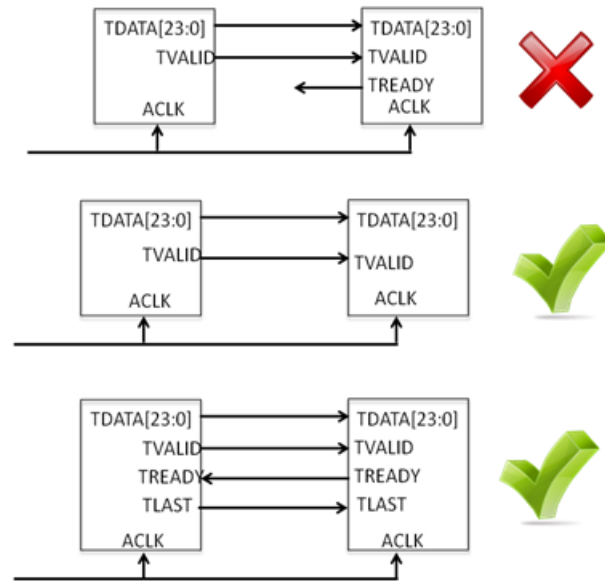

Figure 7-2: Establish AXI4-Stream Signaling-Level Data Exchange Compatibility
- Use of optional signals between two IP being connected to each other, as shown in Figure 7-2, page 150.